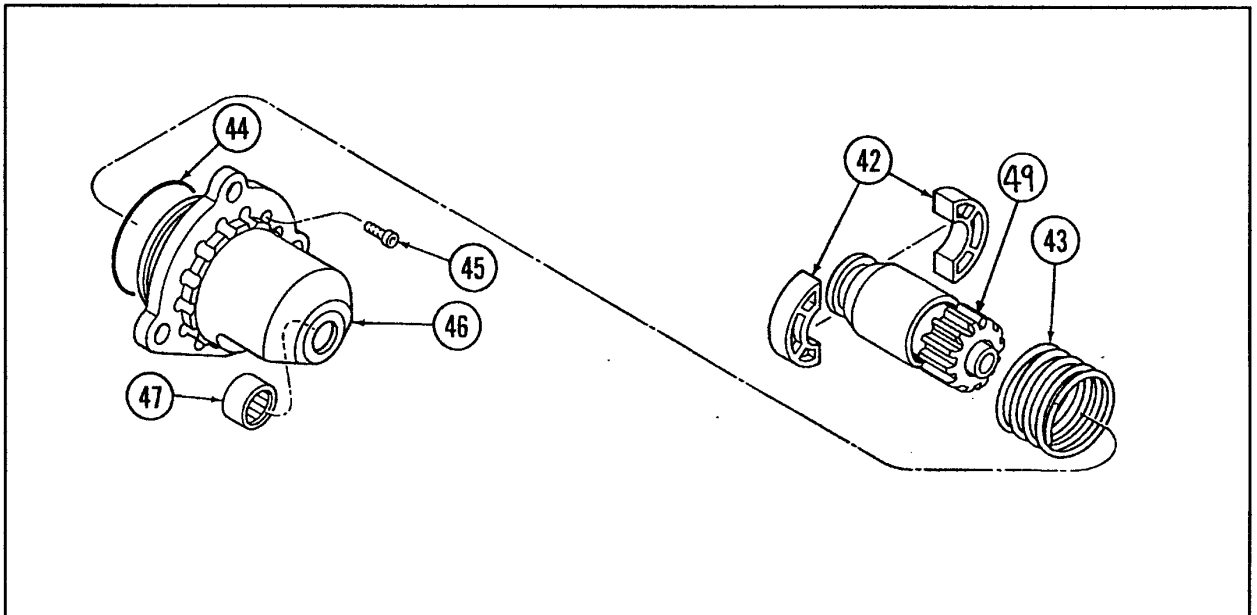

Figure 5. Drive Assembly
The drive assembly, refer to figure 5, consist of a pre-engagement drive (49) and drive housing (46). Twelve screws (45) secure the drive housing to the gearbox housing.